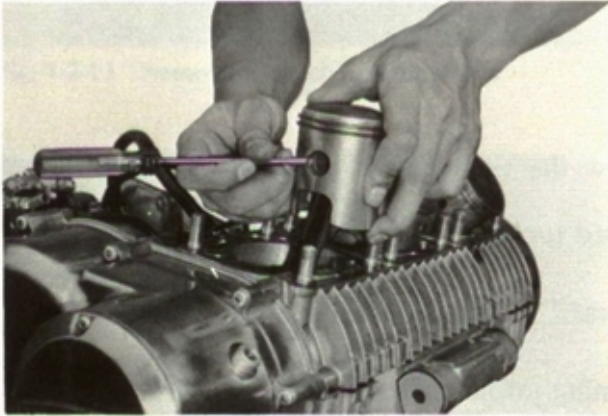

Fig. 7-2-3 Removing piston pin circlip
3. After removing the cylinders, cover the crank chamber with clean rag to prevent a piston pin circlip or a foreign substance from dropping into it. Remove one piston pin circlip from the piston with a small screw driver or nose pliers. Now, the piston pin can be easily removed by pushing the other end of the pin with a rod. Fig. 7-2-3 & 7-2-4.